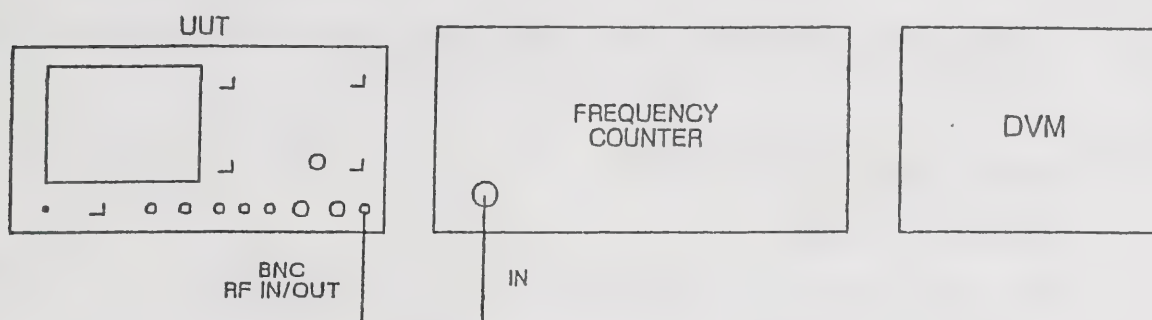

Fig. 3-4 Test equipment connections for adjusting C79 on AA4/1
- (1) Connect the equipment as shown in Fig. 3-4.